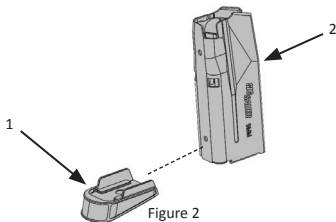

Figure 2
3. Slide floorplate (Figure 2, Item 1) from magazine tube (Figure 2, Item 2). Maintain control of the spring loaded insert.